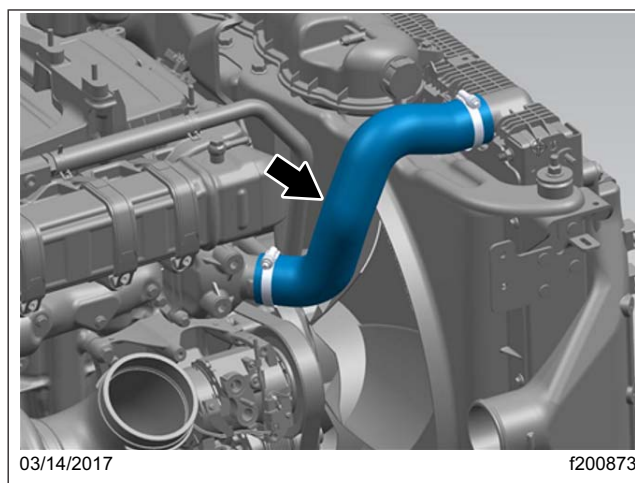

Fig. 1, Upper Radiator Hose
7. Remove the upper radiator hose and shield. See **Fig. 1**.